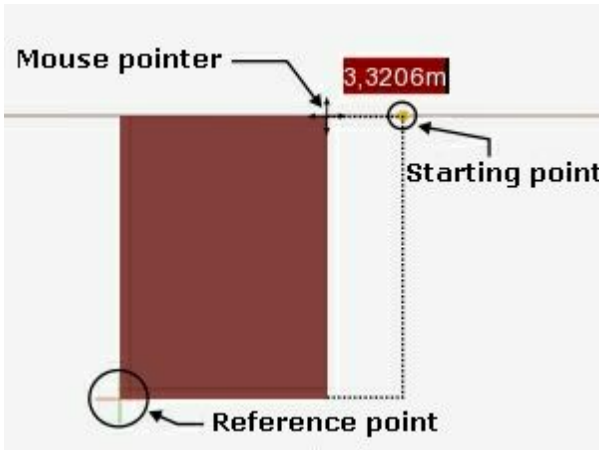

Figure 2
- The starting point is placed at the location where the editing was started. This point is highlighted in yellow as can be observed in Figure 2.
- In Figure 2 the width of a rectangle is downscaled. The original size of the object is marked by dashed lines.